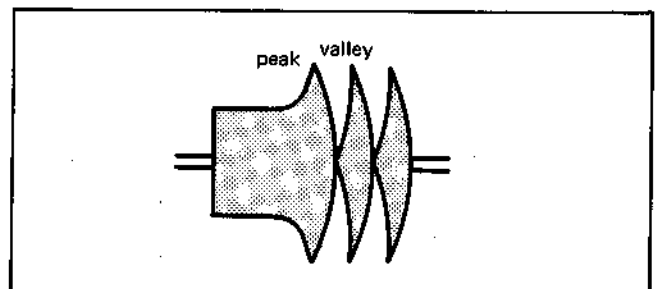

Fig. 1-15
- 3) While observing the RF output waveform, turn the ACE lateral adjustment screw slowly counter-clockwise, confirm that there are peaks and valleys as shown in Fig. 1-15 and stop turning.